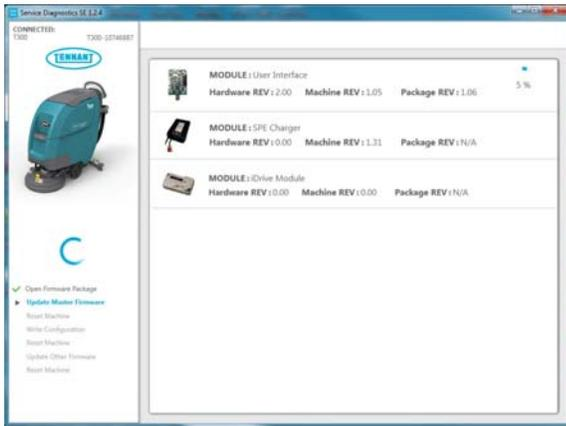

Fig. 10
- The application will begin the process of configuring the new control board. The following screen will appear (Figure 10). During this process, the application may prompt for key cycles. Turn off key, wait a few seconds and turn key back on to continue. The process will also automatically update any machine firmware as needed.